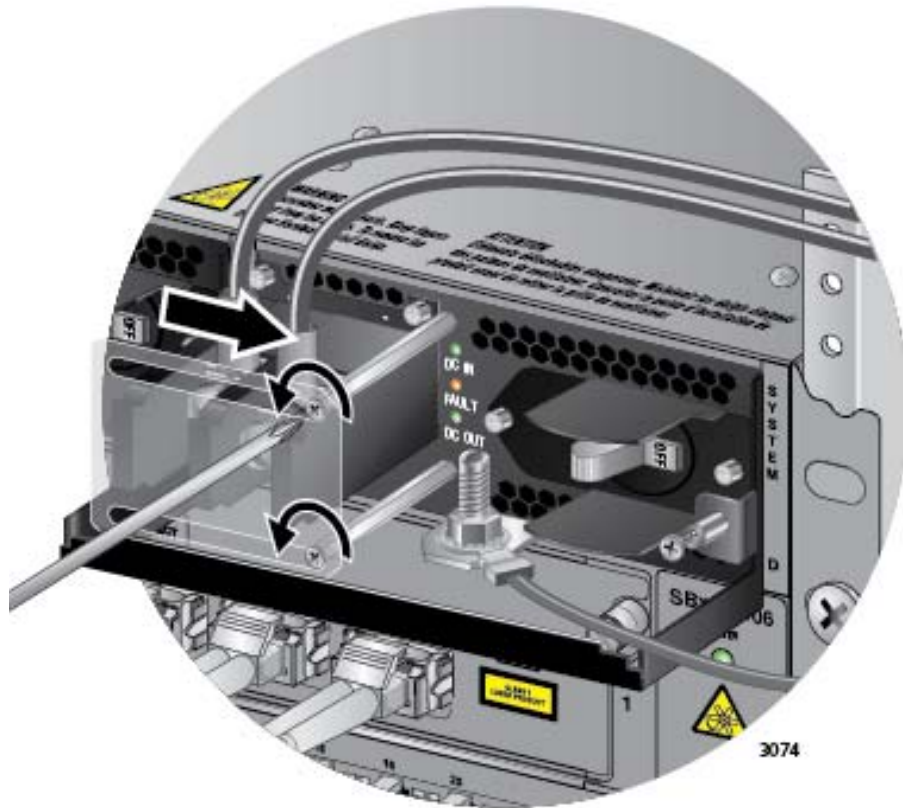

Figure 153. Opening the Plastic Window on the Terminal Block
4. Use a #1 screwdriver to loosen the two screws that secure the plastic cover over the terminal block and slide the cover to the right. You may need to slightly lift the locking handle to access the bottom screw. Refer to Figure 153 on page 238.